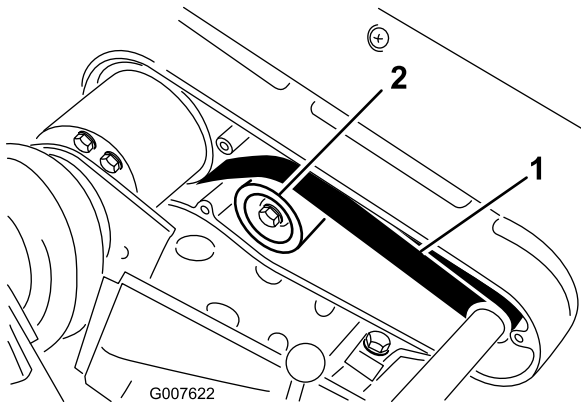

Figure 39
2. Check the tension by pressing the belt at mid span of the pulleys (Figure 39) with 22 to 26 N (5 to 6 lb) of force. The belt should deflect 6 mm (1/4 inch).
- A. Loosen the idler pulley mounting nut and pivot the idler pulley clockwise against the backside of the belt until the desired belt tension is attained (Figure 39).